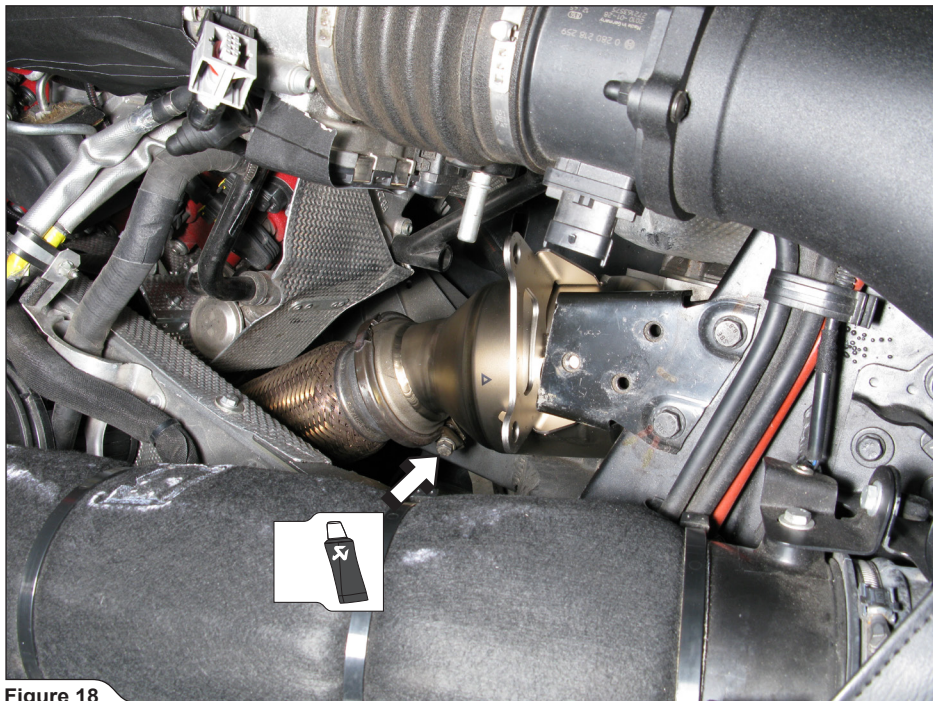

Figure 18
2. **For optional Link Pipes only:** attach the Link Pipes onto the headers and **hand tighten** the original spherical clamps on both sides of the engine (**Figure 18**).